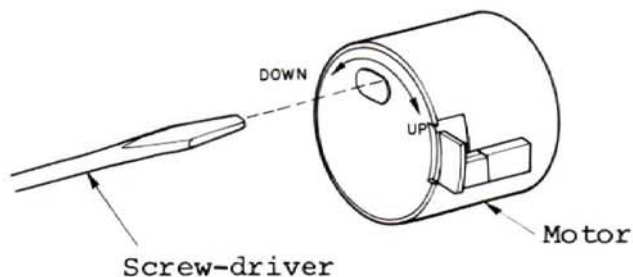

Fig. 14
- b. Speed is adjusted in accordance with the step described in Fig. 14. The tape to be used is MTT-111 (3000 Hz).